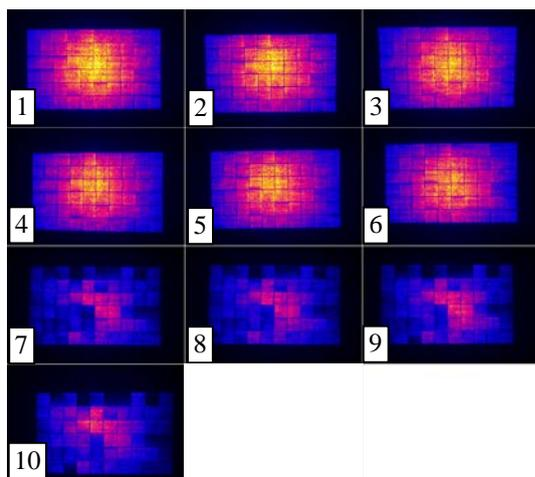
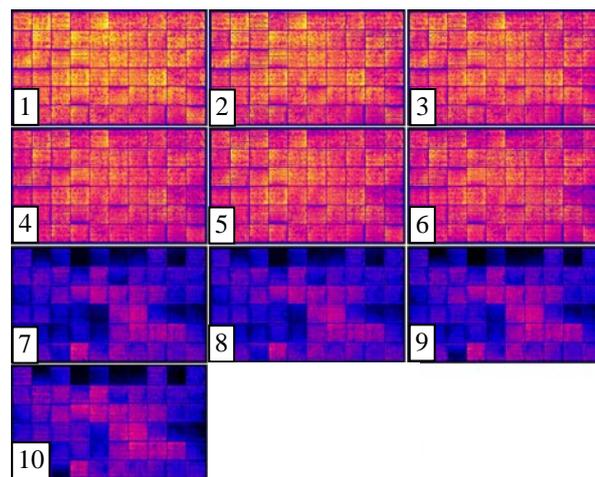
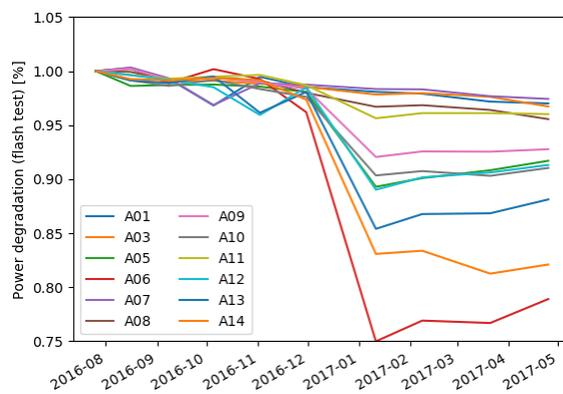

Figure 1: Raw EL images of a PID-stressed module, imaged between August 2016 (index 1) and May 2017 (index 10)
Figure 2: EL images after camera and perspective correction for raw images in Figure 1
Figure 4: Power degradation of the same modules (as shown in Figure 3), obtained from illuminated I-V characteristics
In a collaborative effort involving SERIS, NREL, and Trina Solar to study PV modules potential-induced degradation (PID), testing fields have been set up under three different climates: tropical, subtropical, and sub-arid climates in Singapore, Changzhou (China) and Golden (CO, USA) respectively. Each testing site has six groups of modules developed by Trina Solar with different grades of PID resistance ranging from weak to strong. Among all the locations, Singapore presents the most severe conditions for module PID. At SERIS, the impact of potential-induced degradation (PID) on PV module performance is quantitatively analyzed using spatially resolved electroluminescence (EL) imaging. Indoor EL images and I-V characteristics were measured every month. In this work, the EL method is applied as metrological tool to predict the module power losses due to PID. Firstly, all images taken (Figure 1) were corrected for camera and perspective distortions (Figure 2). After correction, the intensity distribution of each cell, relative to its initial values is analyzed. To translate the relative EL intensity to cell performance, a simplified equivalent circuit is used to calculate the relative changes on the effective I-V curve (Figure 3). The metrological performance of this method is quantified through comparison with I-V curves, obtained from indoor flash tests (Figure 4).
Figure 3: Estimated power degradation for 12 PID-prone modules, obtained from the relative change of cell intensities in the corrected EL images (as shown in Figure 2)